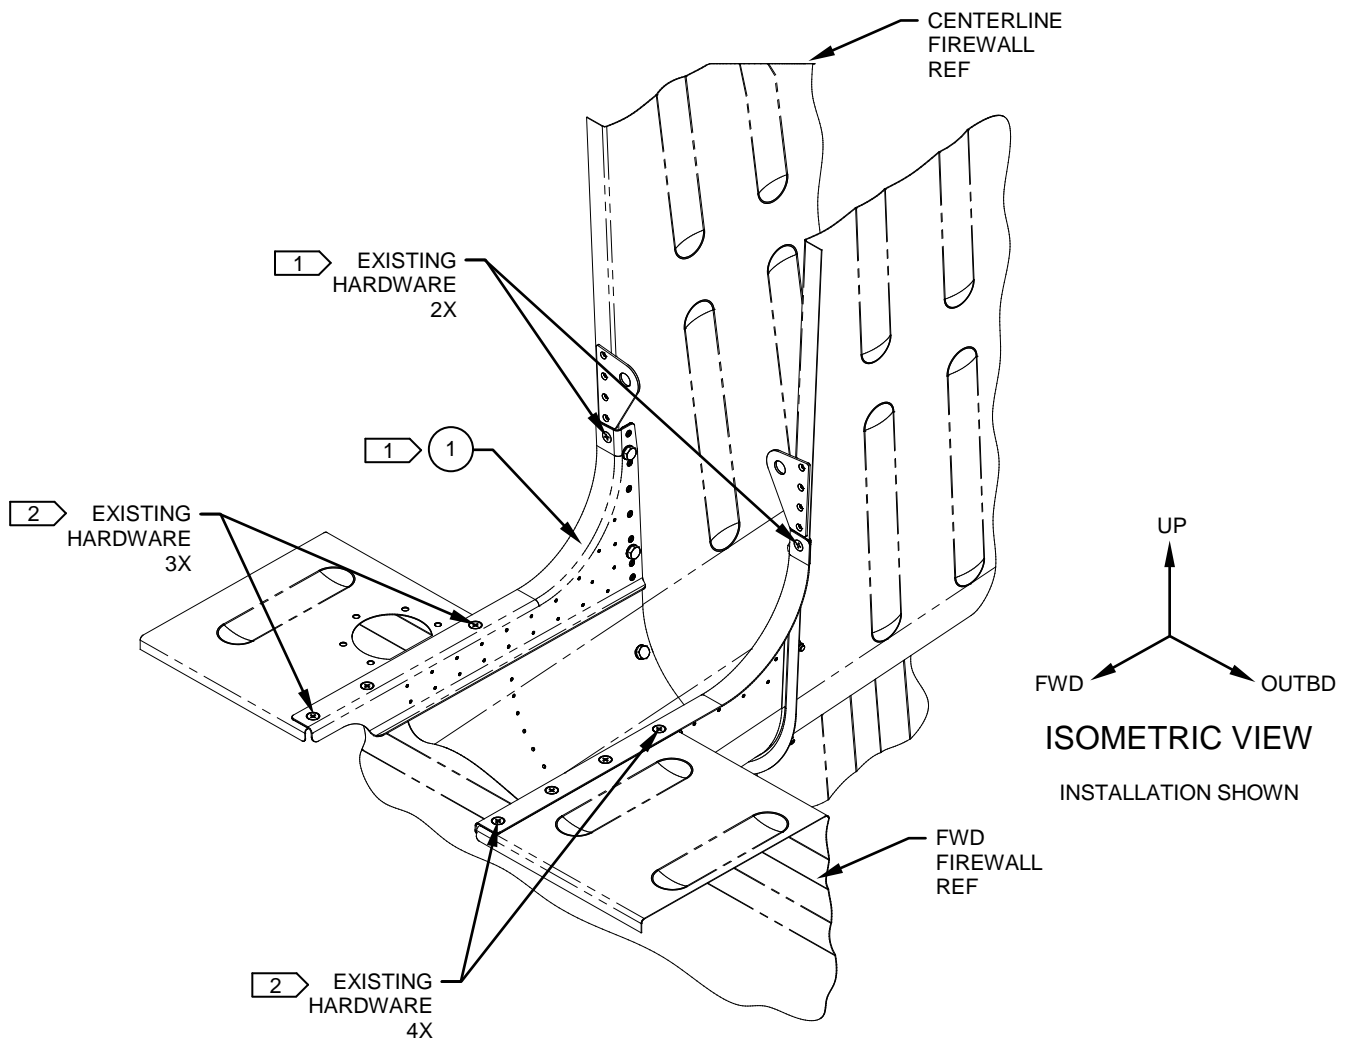

Figure 1
2. Temporarily remove the existing hardware common to the existing Cover. Reference Figures 1 & 2 and Step 5.
3. Remove and discard the existing Cover. Reference Figure 1 and Pennant Note 1.
4. Prepare the Forward/Centerline Firewalls by removing any residual gasket material, dirt, etc. and wipe the mating surfaces clean. Reference Figure 1.